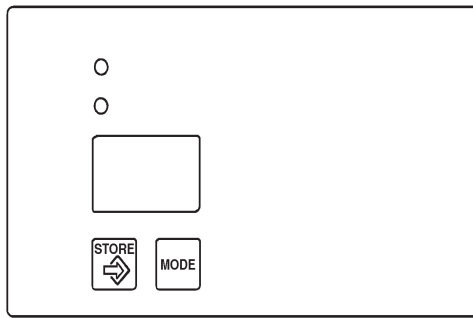

Fig.3-25 Chair Preset Panel
Note ; When chair safety lock system is working, **LOCK OFF** L.E.D. on the chair preset panel will be turned off. (**Fig.3-25**)
(8) Preset Position Adjustment (**Fig.3-25**)
2. Keep depressing (1) button on doctor table or assistant side control panel until buzzer sounds so that the position is memorized to PRESET 1, then the buzzer sound ceases.
3. PRESET 2 is memorized by pressing (2) button as following 1 to 2.
(9) Mouth Rinsing Backrest Position Adjustment (**Fig.3-25**)